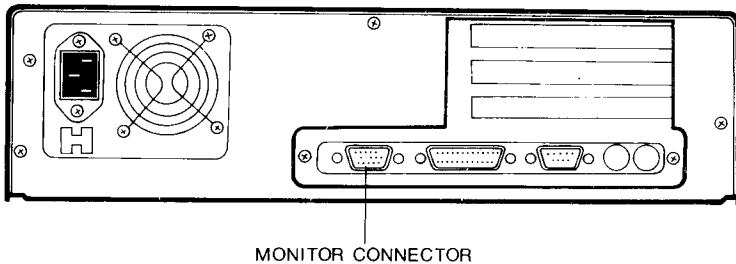

Figure 1-9. Locating the monitor connector on the rear of the system unit.
4. Place the monitor on top of the system and plug the monitor cable into the monitor and into the display connector on the rear of the system unit. (identified in Figure 1-9).